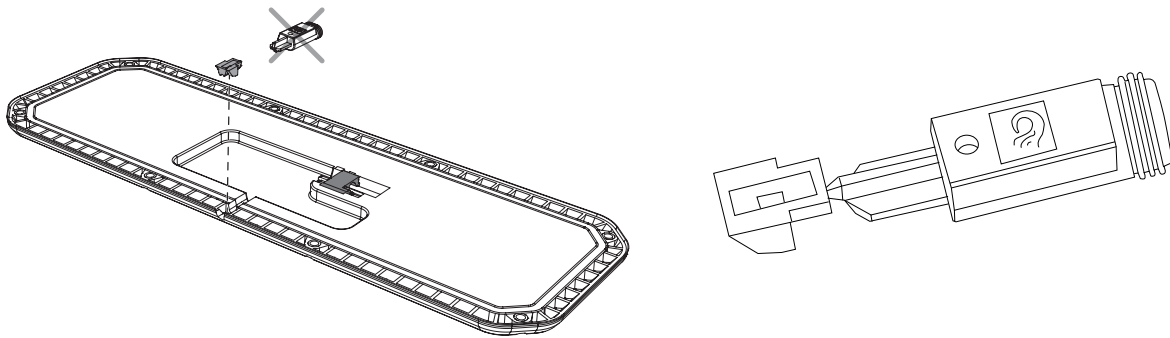

Figure 50. Installation of plug for sealing UCU.
4. Carefully break off the outer part of the plug and place in the recess. See Figure 50.